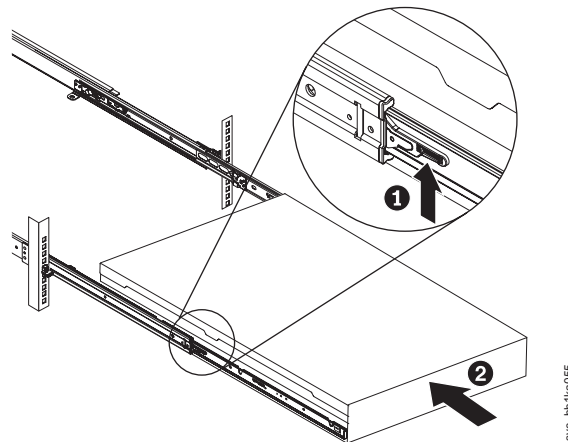

Figure 255. Raising the SAN Volume Controller 2145-CF8 locking levers of the slide rails of the rack
9. Lower the rear flange of the heat sink into the opening in the retainer bracket (5) and press down firmly on the front of the heat sink until it is seated securely.
10. Rotate the heat-sink release lever (2) to the closed position and hook the lever underneath the lock tab (4).
17. Lift the locking levers (**1** in Figure 255) on the slide rails and push the server **2** all the way into the rack until it clicks into place.